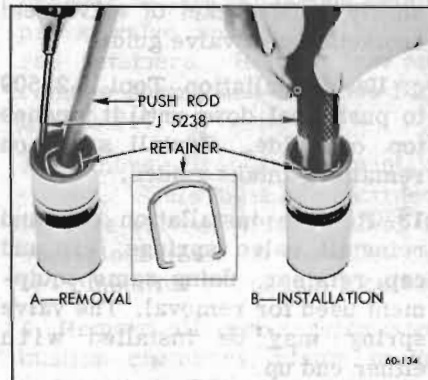

Figure 60-319—Removing and Installing Plunger Retainer
4. Disassemble each valve lifter by using a push rod to hold down the push rod seat while removing the plunger retainer from the lifter body, using Retainer Remover J-5238. See Figure 60-319, View A. Remove push rod seat and plunger from lifter body.
16. Rinse push rod seat and plunger retainer, place these parts in end of body and depress with handle of Remover J-5238 until retainer engages groove in body. See Figure 60-319, View B.